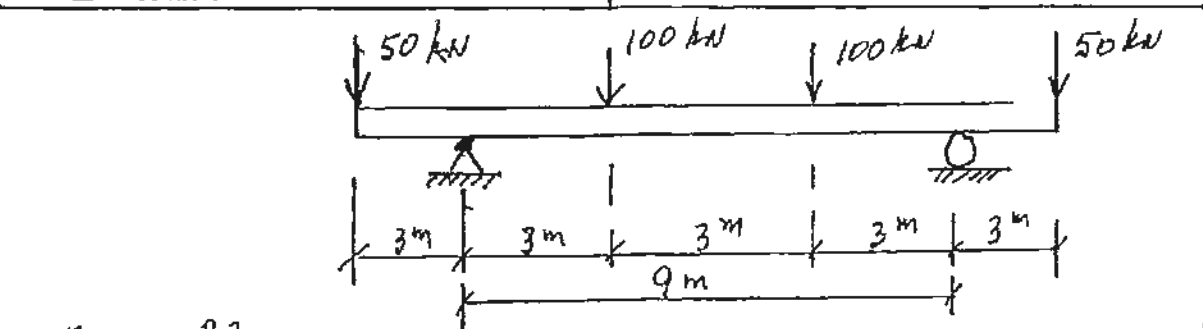

FIGURE B3
- B3. Design the reinforced concrete girder with the two overhangs, Figure B3. Take into account the self-weight of the girder. Sketch the reinforcement details.